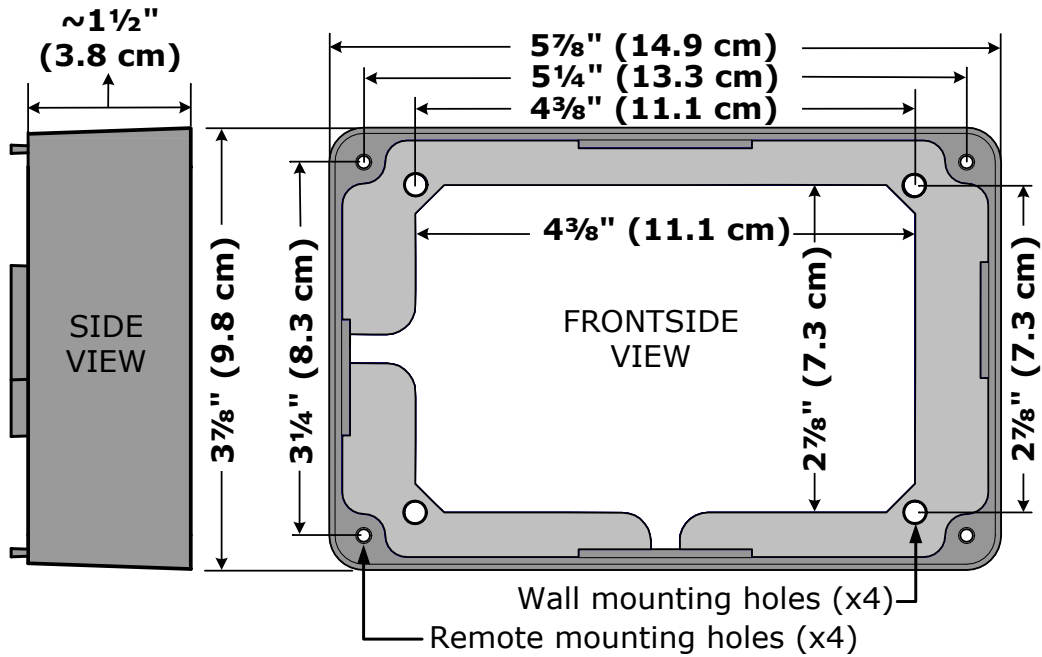

Figure 1, Bezel Dimensions
1. Using the bezel as a template, place the backside against the wall and mark the location of the four wall mounting holes (see Figure 1).